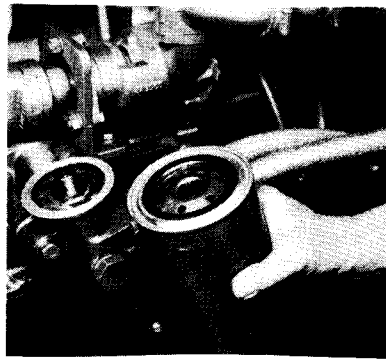

Fig. 17
2. Unscrew canister from filter head, before disposal check that threaded adaptor or standpipe is secure in filter head (see Fig. 17).